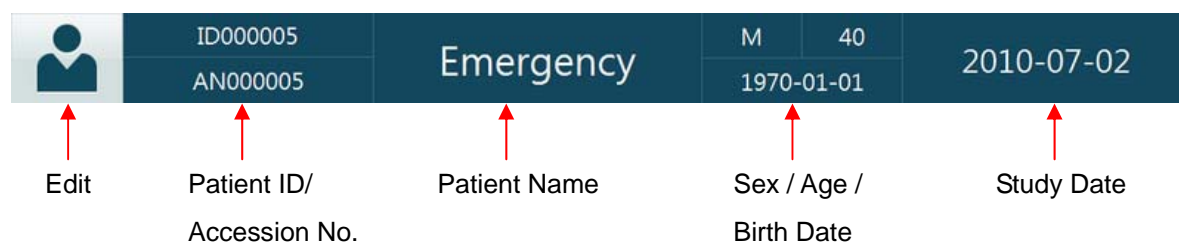

Figure 2.8. Patient and Study Information
- Patient and Study Information will be always displayed at top of the window (Figure 2.8). Select “Edit” button to edit information.